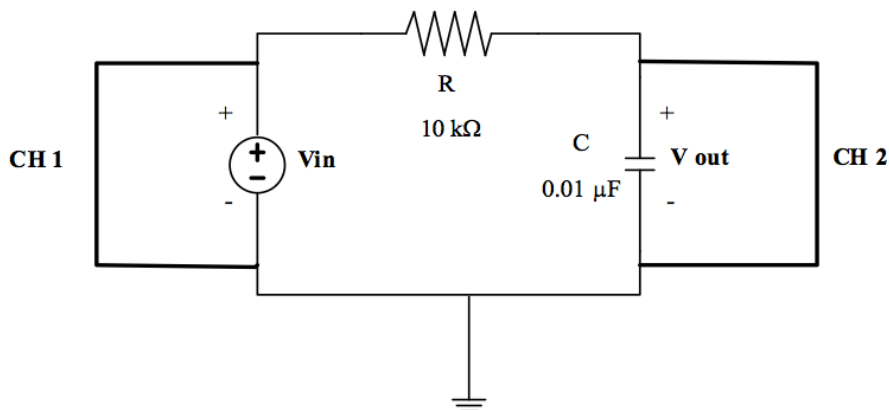

Figure 1
1. Set up the circuit in figure 1. Channel 1 is observing the incoming signal and channel 2 is looking at the out coming signal. Make sure you use the same ground point in your circuit for both channels.